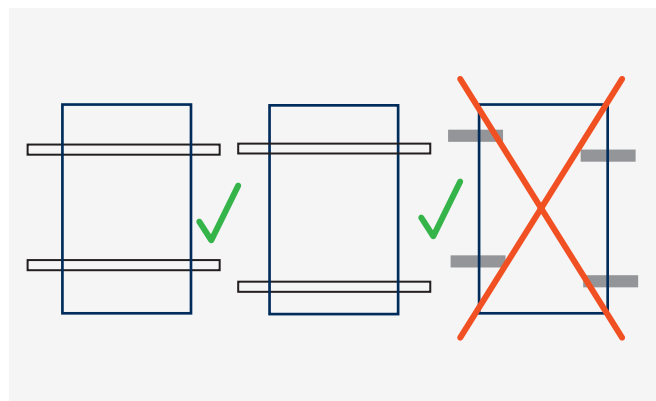

Figure 1: Permissible layout of the fastening points and installation profiles
- ▶ The fastening points are to be aligned symmetrically (see Figure 1).